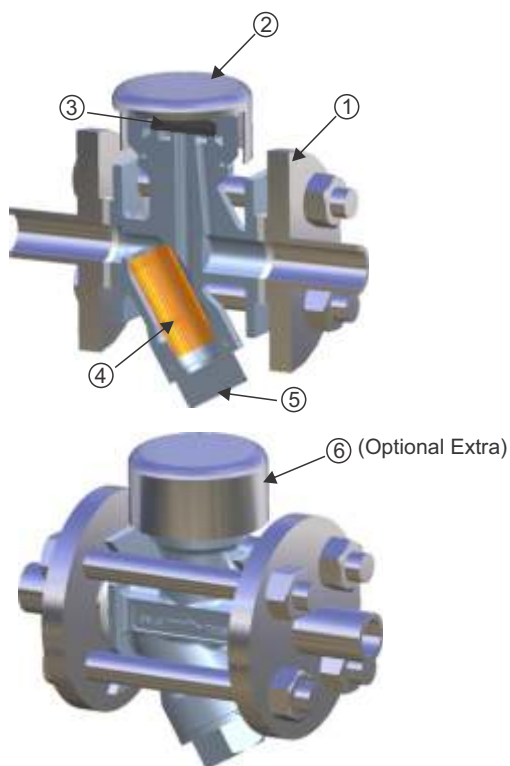

Figure 1: Forbes Marshall Thermodynamic Trap with Sandwich Ends
7.4 Procedure to service trap: [Refer figure 1]
3. When re-assembling main bore cap (2), the disc (3) is normally placed in position with the grooved side in contact with the body seating face (1). No gasket is required but high temperature anti-seize grease should be applied to the threads. The main bore cap (2) should be tighten to the recommended torque (Refer Table 1).
7.5 Procedure to replace the strainer screen: [Refer figure 1]